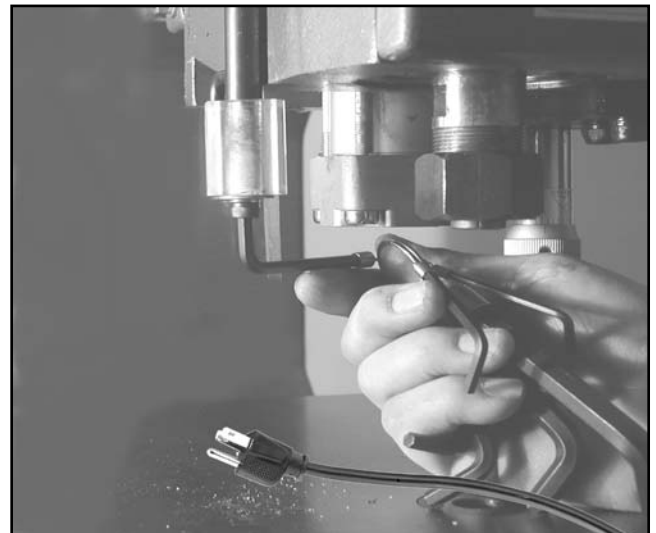

Figure 10. Securing the dust shield.
2. Install the hex head bolt in the bottom of the post. Use a flat washer between the bolt head and the shield as shown in **Figure 10**.